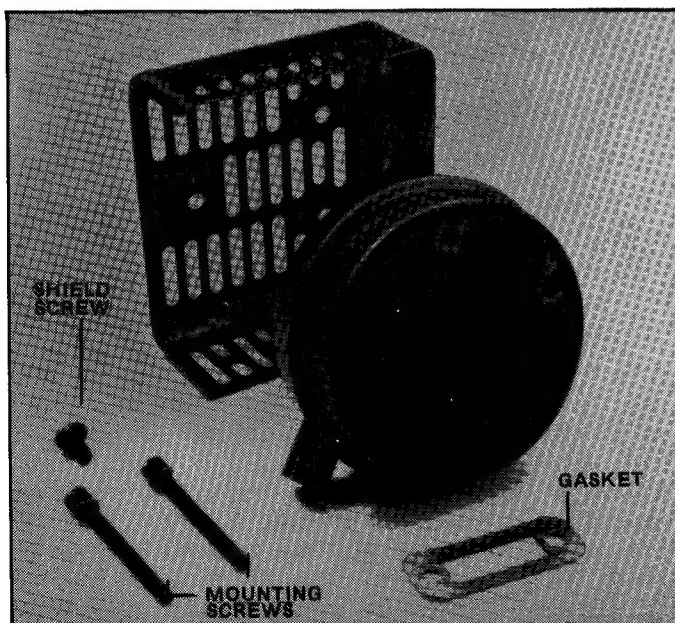

**FIGURE 4.3**
B. For re-assembly the replacement fuel line and filter are already assembled together. To re-install the line and filter form a loop in a length of small diameter stiff wire and pass the loop through the bottom hole of the tank and out through the fill neck. Insert the tip end of the line inside the wire loop and draw the wire through the bottom hole seating the filter base inside the tank. See Figure 4.3.